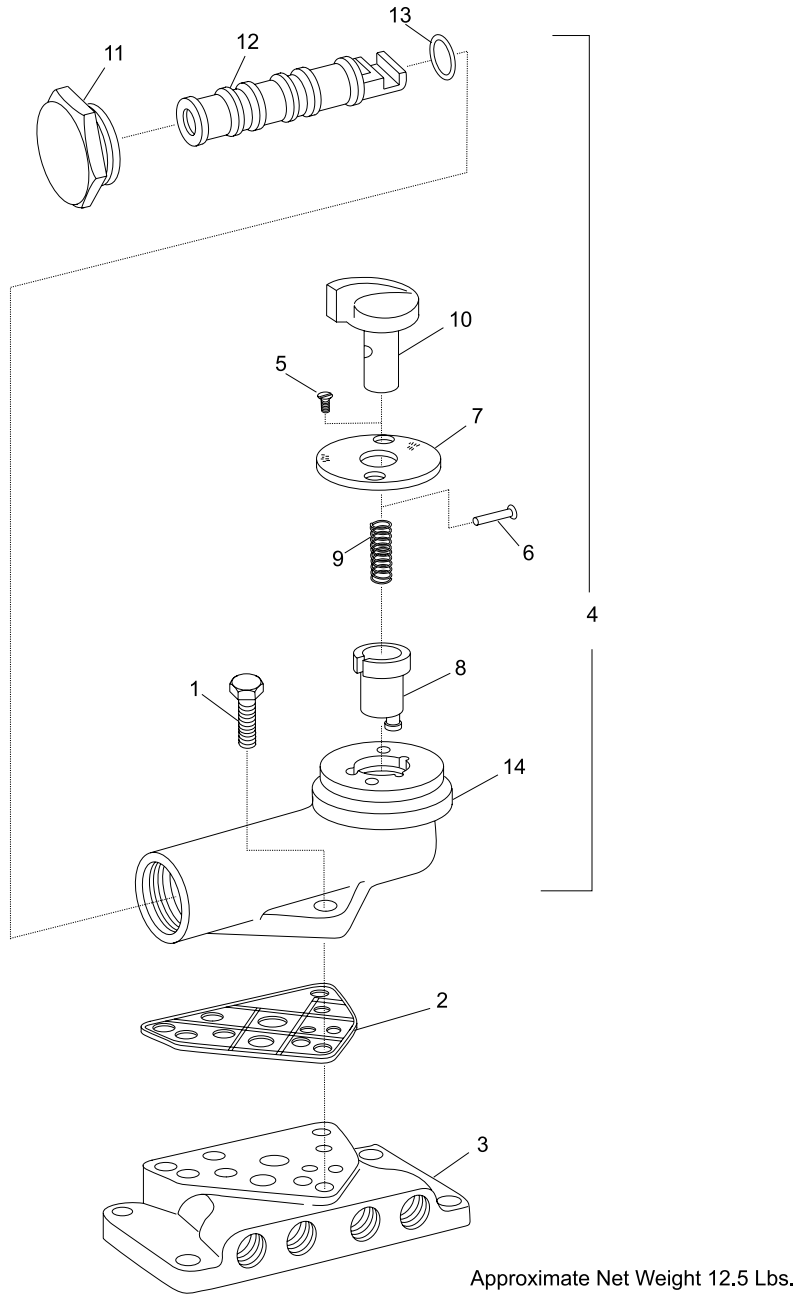

Figure 3 - Exploded View
(Figure 3)
**8.4.2 IMPORTANT:** Whenever the "MU-2A" Valve Portion, Part No. 561487, is removed from an equipment arrangement for any reason, and it is reinstalled or replaced with a NEW or repaired and tested "MU-2A" Valve Portion, a NEW pipe bracket mounting gasket **MUST BE** used. This gasket is shown as Ref. 2 in Figure 3.